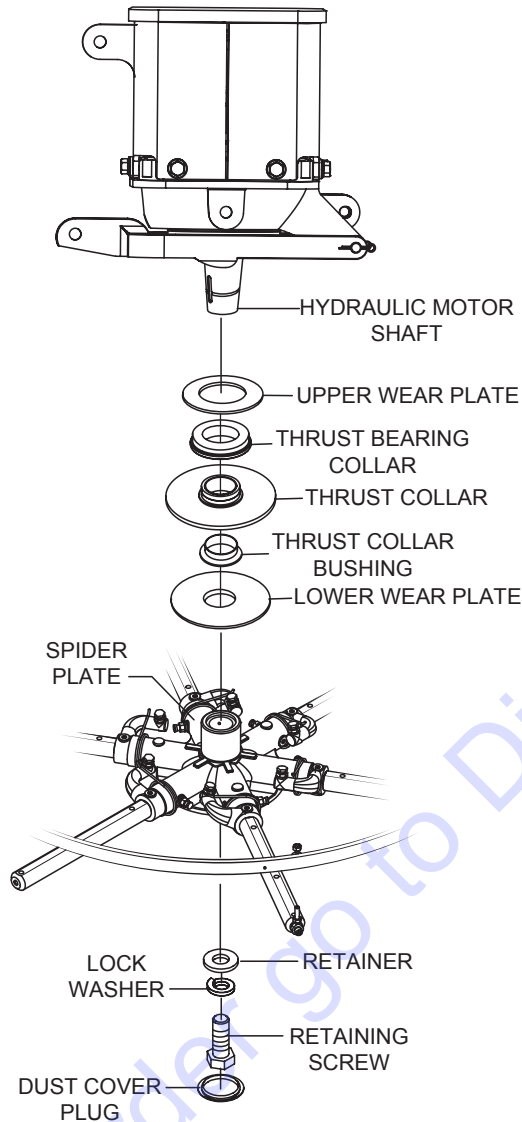

Figure 49. Spider Removal
1. Using the removal tool or equivalent, remove the dust cover plug (Figure 49) on the underside of the spider plate. This plug has been provided to protect the spider threads from contaminants.